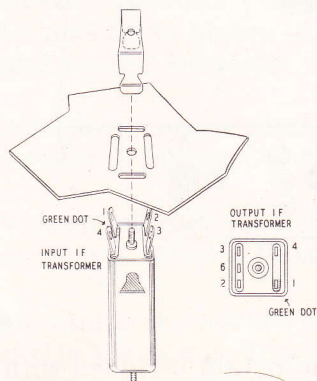

Figure 4
- () Mount the four lug input IF transformer in hole L. This transformer is placed so that the green dot is next to pin 5 of socket A. Holding the transformer securely in place with your fingers, push the mounting clip through the two remaining slots in the chassis. Push one side down until the clip locks in place on one side of the transformer. Then push the other side down with a screwdriver until the end of the clip locks in place at the other side of the transformer. Refer to Figure 4 as the clip mounting procedure is clearly illustrated.